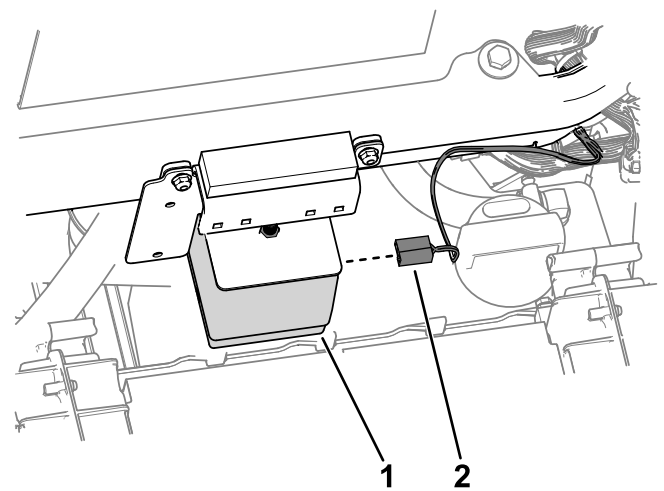

Figure 29
5. Route the wire-harness connector labeled HORN (P13) to the horn. Connect the harness to the horn (Figure 29).